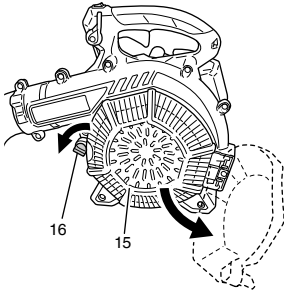

Fig. 5
If you try to open the guard net (15) when engine is running, it will automatically stop the engine. (Fig. 5)
- Loosen knob bolt (16). (Fig. 5)